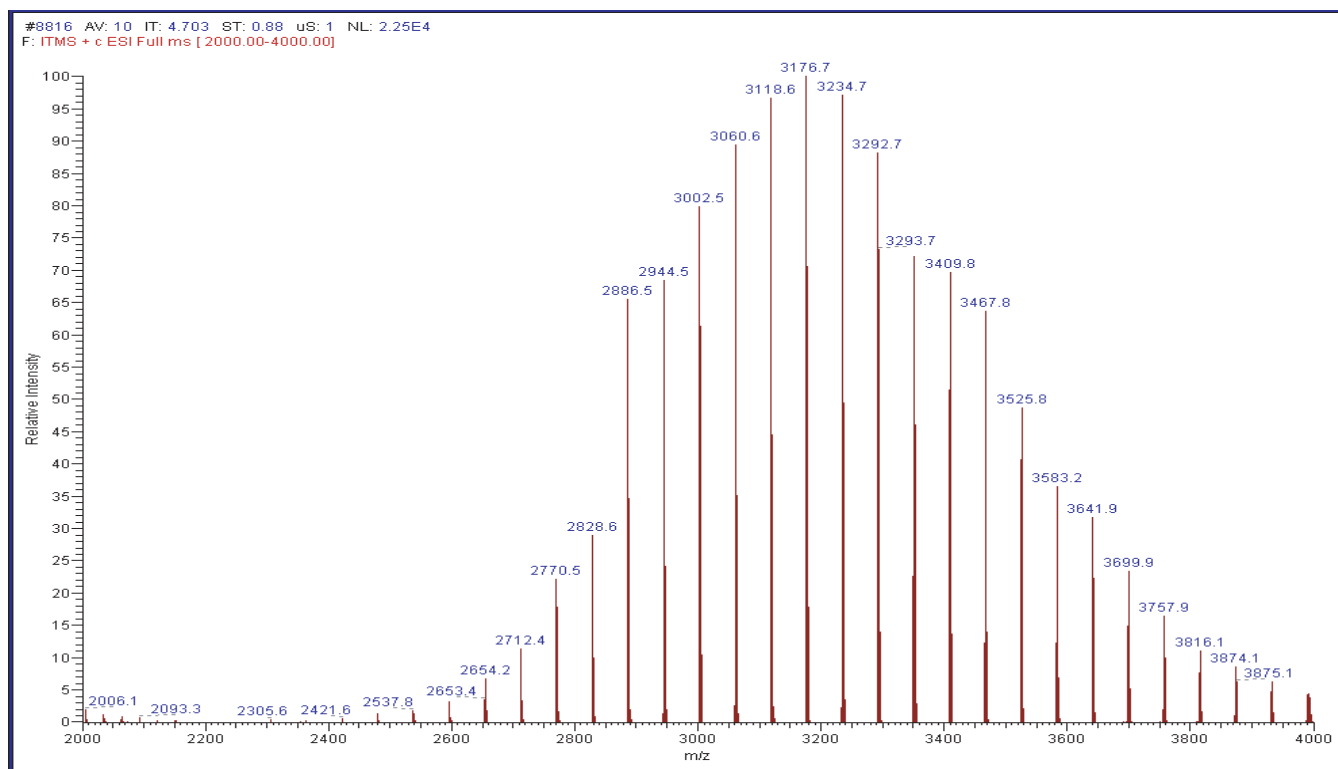

Figure 70. PPG2700 mass spectrum
2. From the Tune page go to Define Scan dialog box (see Figure 32 on page 74). In the Scan Description group box: a) choose **High** in the Mass Range spin box, b) choose **Normal** in the Scan Rate spin box, and c) choose **Full** in the Scan Type spin box. In the Scan Ranges box, type 2000 for the First Mass and 4000 for the Last Mass. Click **Apply**. The spectrum should look like that shown in Figure 70.